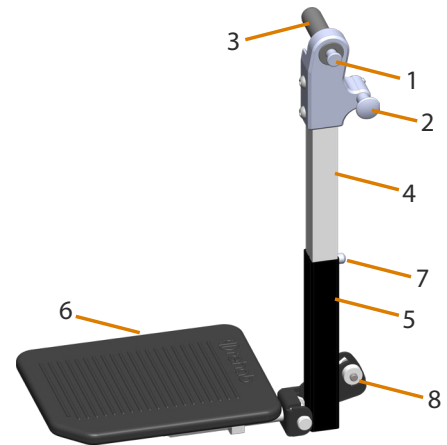

Figure 28. Separate leg rest components
Components, see Figure 28:
- Push in the snap lock (7 in Figure 28) and move the footrest tube to the desired position.
- Loosen the bolt (8 in Figure 28), 10 mm spanner.